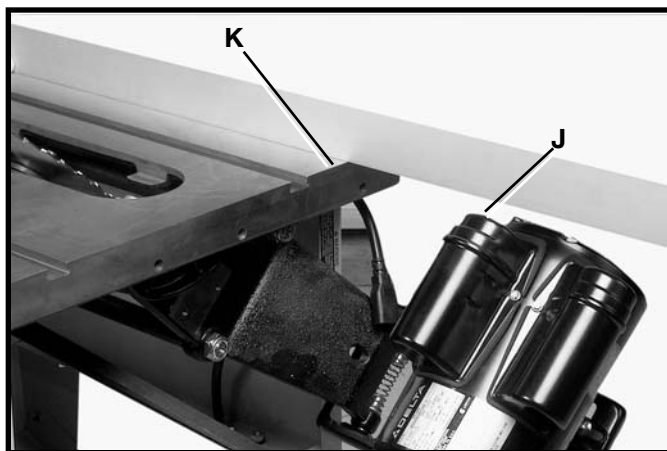

Fig. 21
⚠ WARNING: IMMEDIATELY AFTER ASSEMBLING THE BELT, RAISE THE SAW BLADE TO ITS MAXIMUM HEIGHT AND TILT THE SAW BLADE TO 45 DEGREES. CHECK TO SEE IF THE MOTOR END BELL (J) FIG. 21, IS BELOW THE TOP OF THE TABLE SURFACE (K). IF THE MOTOR END BELL (J) IS ABOVE THE TOP OF THE TABLE SURFACE, THE MOTOR MUST BE MOVED TO THE LEFT UNTIL YOU ARE CERTAIN THE END BELL (J) OF THE MOTOR IS BELOW THE TOP OF THE TABLE SURFACE. THEN RE-ALIGN THE MOTOR PULLEY TO THE ARBOR PULLEY.